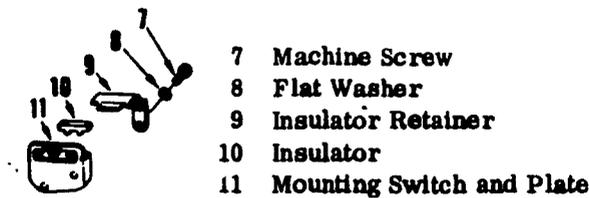

Figure 6. NTS Check Switch.
a. Remove the two machine screws and flat washers that retain the insulator retainer. Remove the insulator retainer and the terminal screw insulator, figure 6.